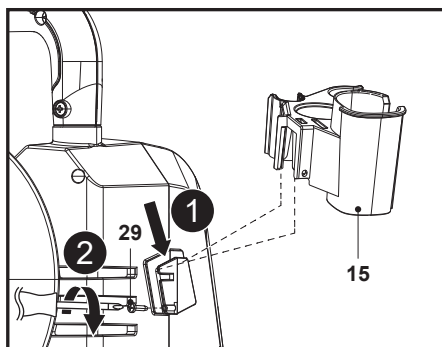

Fig. 1a
1. Slide the suspension bracket (15) onto its rest and align the mounting hole, then use a suitable cross-head screwdriver (not supplied) to secure the connection with the screw (ST3.5 x 13) (29) (Fig. 1a).